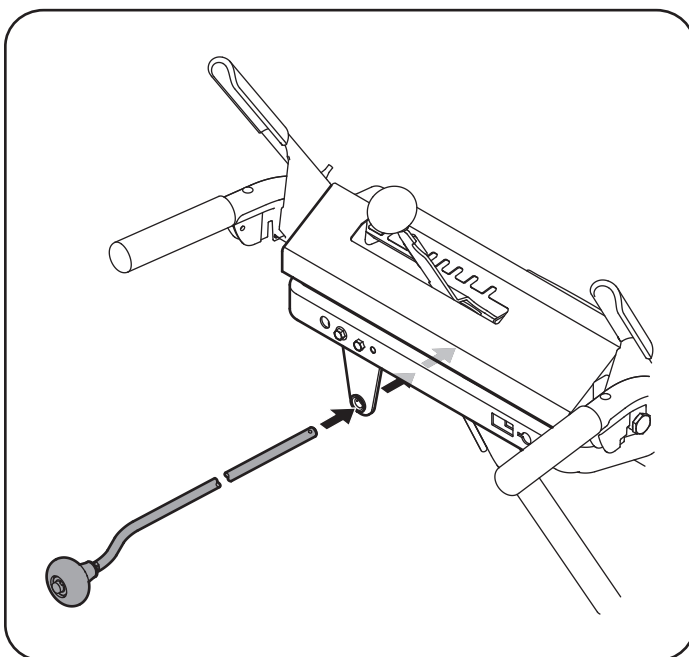

Figure 7
4. Insert the chute directional control into the support bracket on the rear of the dash panel. See Figure 7.